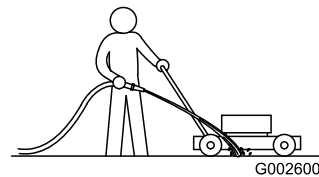

Figure 21
4. Hold a garden hose at handle level and spray a stream of water in front of the **right**, rear wheel (Figure 21).